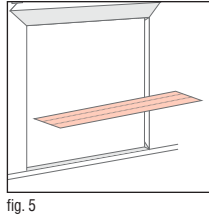

fig. 5
- Cut the formable flashing tape at least 12" longer than the width of the rough opening sill. (**fig. 5**)